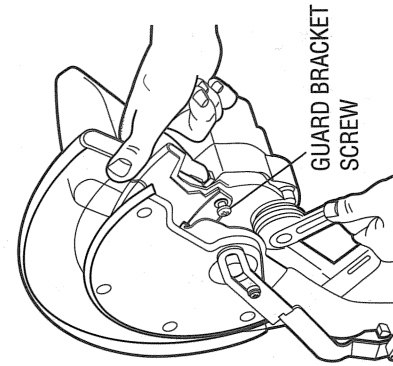

Figure 3
2. Loosen (but do not remove) the guard bracket screw, shown in Figure 3 until the guard bracket can be raised enough to permit access to the blade screw.